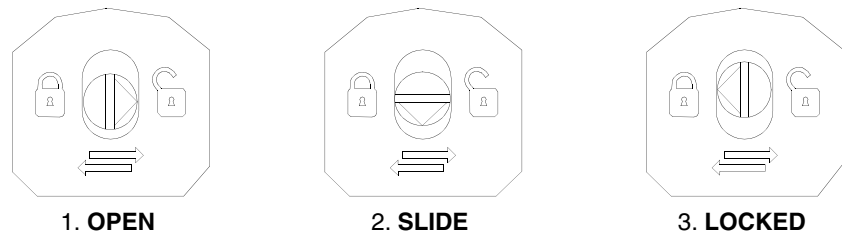

Figure 17. Baseplate Locking Device
Mounting the units onto the DIN-rail only requires a blade screwdriver that fits securely into the baseplate locking screw (1 mm slot). For further details on mounting procedure, see Figure 17 on page 75.
3. Rotate the locking device to the **SLIDE** position (2) on the unit baseplate, see Figure 17 on page 75.